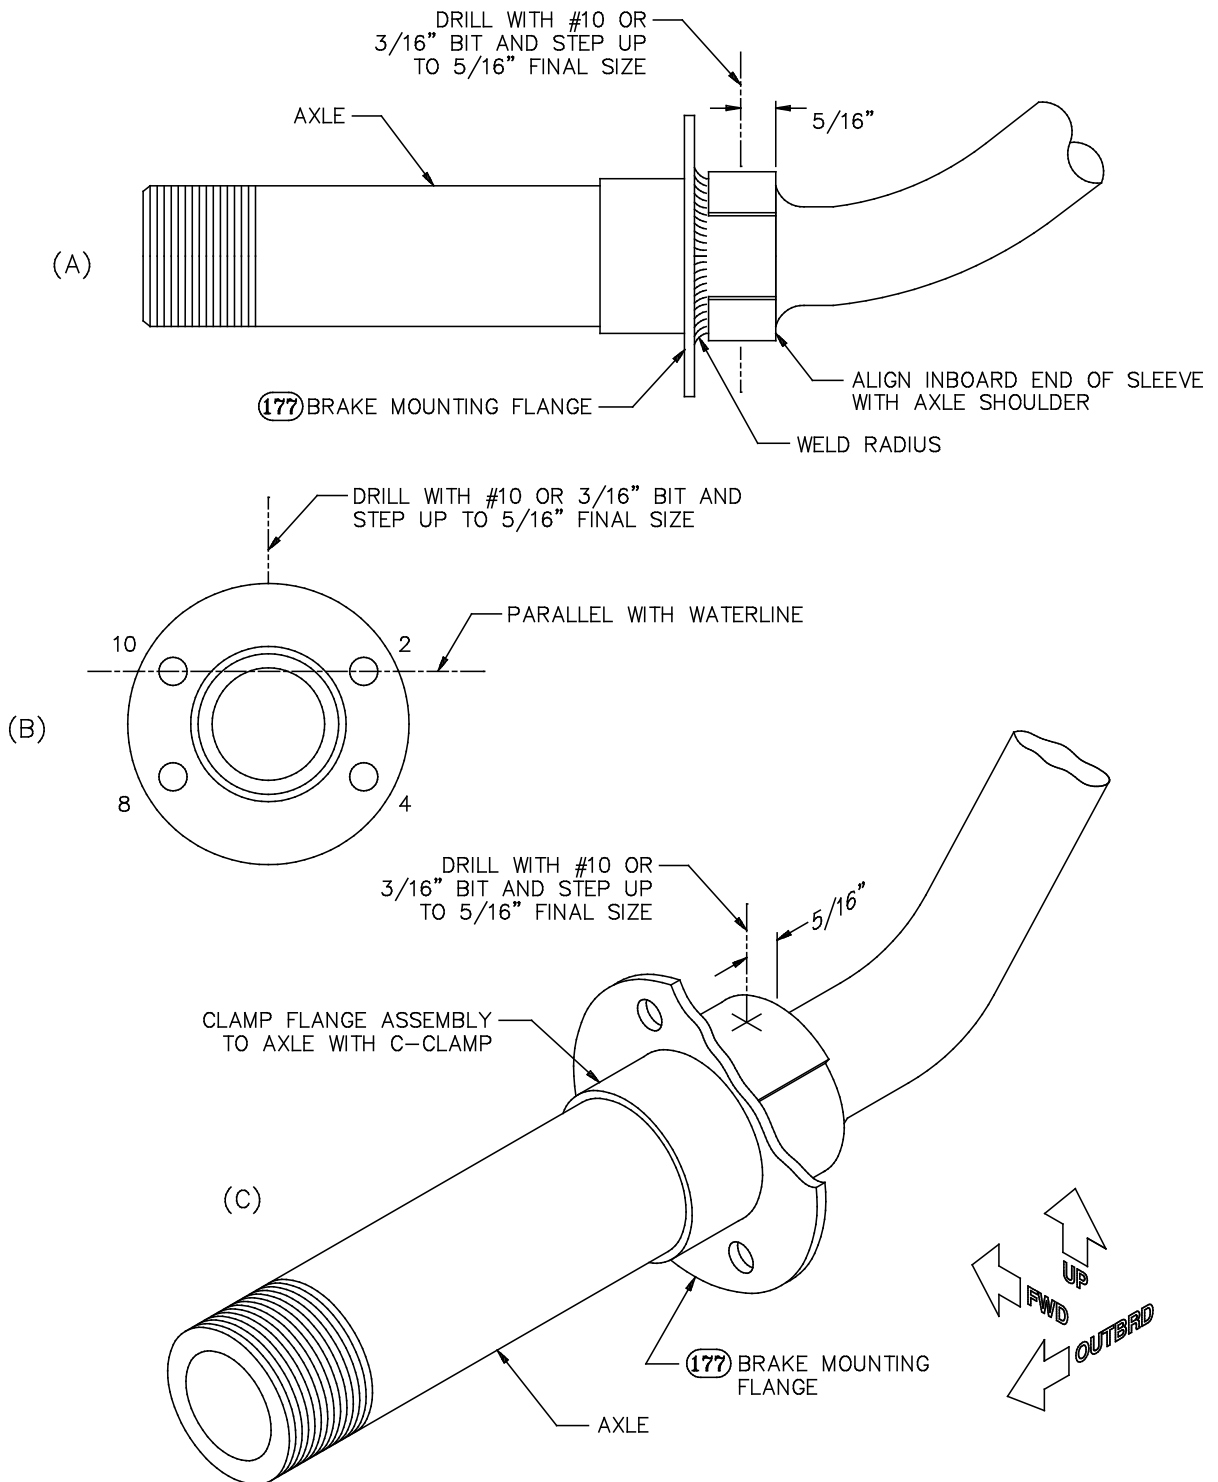

Figure 120: Drilling the Brake Mounting Flange/Axle Bolt Hole
6.00/8.00 X 6 Taildragger Option If you plan in the future to mount 6.00 X 6 or 8.00 X 6 wheels and brakes on the same gear legs that you are now drilling for standard, 5.00 X 5 wheels and brakes, it is **vital** that you take great care to keep the bolt holes for the standard, 5.00 x 5 brake mounting flanges **precisely centered** on the axles and **precisely 5/16"** from the inboard end of the sleeve, as shown in Figure 120. This is because this hole is common to the heavy-duty brake flanges, and it will be difficult or impossible to drill a matching hole in the heavy-duty flange if the initial axle hole is not where it belongs.